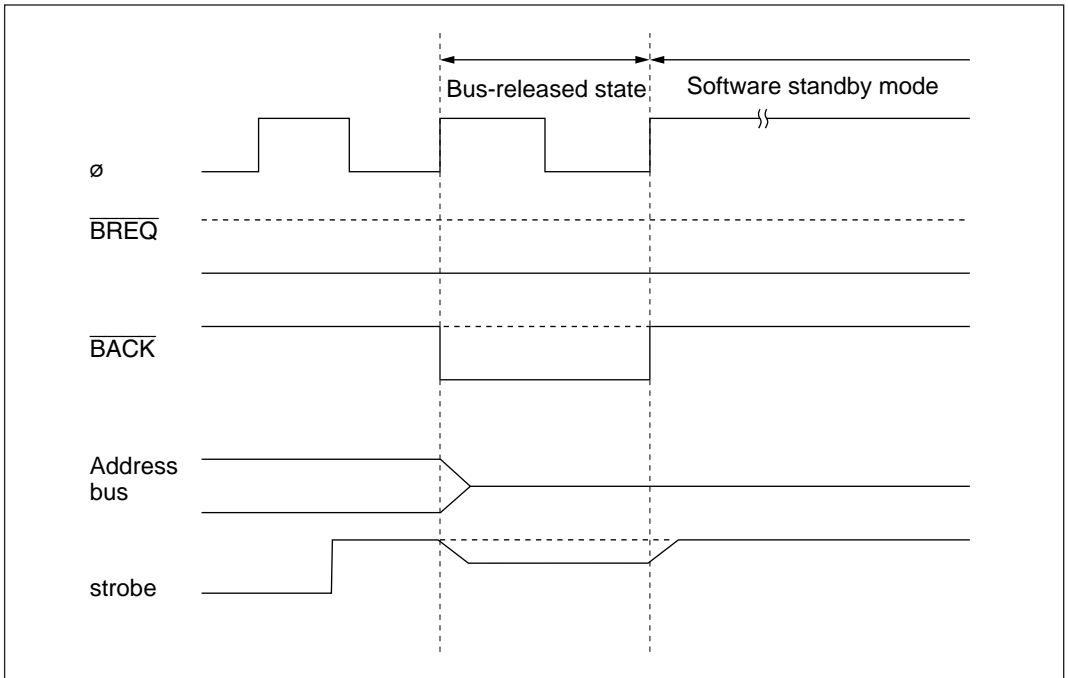

Figure 6-23 Contention between Bus-Released State and Software Standby Mode
- If contention occurs between a transition to software standby mode and a bus request from an external bus master, the bus may be released for one state just before the transition to software standby mode (see figure 6-23). When using software standby mode, clear the BRLE bit to 0 in BRCCR before executing the SLEEP instruction.